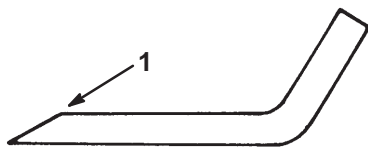

Figure 32
1. Use a file to sharpen the cutting edge at both ends of the blade (Fig. 32).